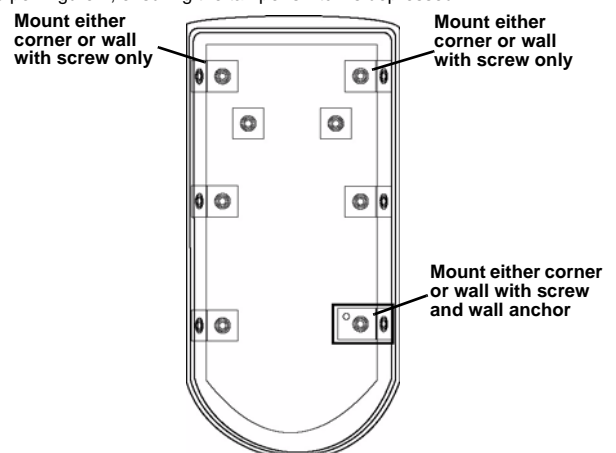

Figure 2 EE1260 mounting back plate
- a. If using the wall tamper function for increased security, mount the housing back plate per Figure 2, ensuring the tamper switch is depressed..